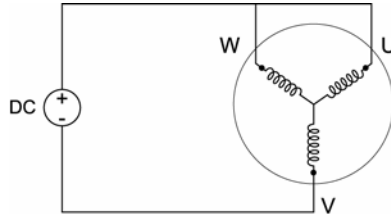

Figure 39 Hall Connection Diagram
1. With the motor's feedback cable connected to the drive, randomly connect two motor power wires and slowly apply a positive voltage with respect to the third. See Figure 39 on page 79.
2. Remove the motor power leads, leaving the feedback cable connected to the drive. Connect motor power wires U and V and slowly apply a positive voltage with respect to W. (See Figure 39.)